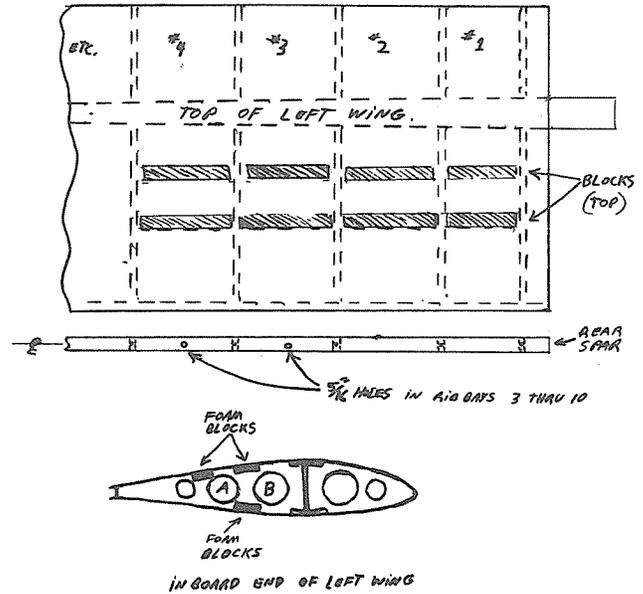
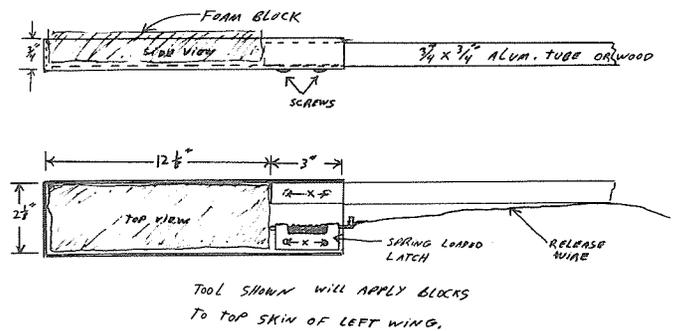

FIG. 5
FIG. 6
The blocks are installed after the wing has been bonded, with two rows of blocks glued to the underside of the top skin, and one row of blocks glued to the inside of the bottom skin, with the rows running parallel to the spars. The positioning of the blocks relative to the wing chord can be seen in figure 5. Notice how the blocks are not in line with the larger lightening holes in the ribs. A special installation tool must be made that will allow you to get the blocks down inside the wing and in position. The blocks are positioned slightly aft of the holes to make better use of their stiffening abilities by dividing the inter-rib panel more evenly between them. The blocks are installed on the inboard 10 rib bays only, for no other reason than that the outer rib bays are not under enough stress to have any oil canning occur.
The installation tool is basically a three sided box (see figure 6) that holds the foam block in place while you position it down inside the wing. The box portion of it can be made out of any thin metal sheet (we used .025" aluminum), with the three, 3/4 inch sides bent up. The open end of the box is where the handle and spring latch are located. We used a Moni canopy spring latch, but any similiar type could be used. The handle should be about 12 feet long and can be made of wood or aluminum tubing (square works best). A wire is attached to the handle of the latch to provide a release control. The handle and the latch can be installed with sheet metal screws, with the only requirement being that the hole locations and dimensions must be identical opposites of each other. This is because their positions will have to be swapped from one wing to the next, to enable the foam block to still be positioned behind the handle/lightening hole.
The installation procedure goes something like this. First, on each rear wing spar, drill a 5/16 inch hole in the center of the rib bays 3 through 10, inclusive, on the spar centerline. These holes make it possible to view the block being positioned. You can also reach through the hole with a 1/4 inch rod to help locate the block. For this example we will be doing the left wing (fig. 5) with the wing resting upside down on sawhorses. The installation tool must be made as shown in fig. 6. Place one of the blocks in the tool setting the spring latch to hold it in place. Apply three beads of the liquid foam adhesive down the length of the block. Now carefully work the tool down through the first row of lightening holes (B). When you are in the #10 bay, rotate the tool upside down and pull the latch release. The block should drop down and you can use your 1/4 inch rod to position it and press it down firmly to the skin. We were able to tape a fluorescent trouble light to a stick and slide it down into the wing ahead of the main spar. This would light up the inside of the wing and make it easy to see what was going on. After your first block is in place just repeat the process for the block behind it (accessible through hole A), and so on down the line till you've completed the two rows on the top skin. The blocks in bays #1 and #2 can be positioned easily by reaching in from the end of the wing.